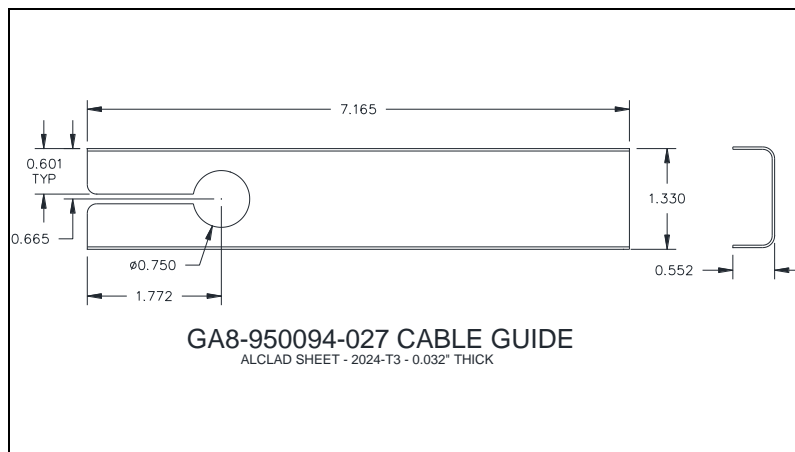

Figure 1
1. Ream the 0.750" circular cut-out on the cable guide (GA8-950094-027) (Figure 1) such that the hole is of 1.00" diameter. Deburr the cut-out as required.